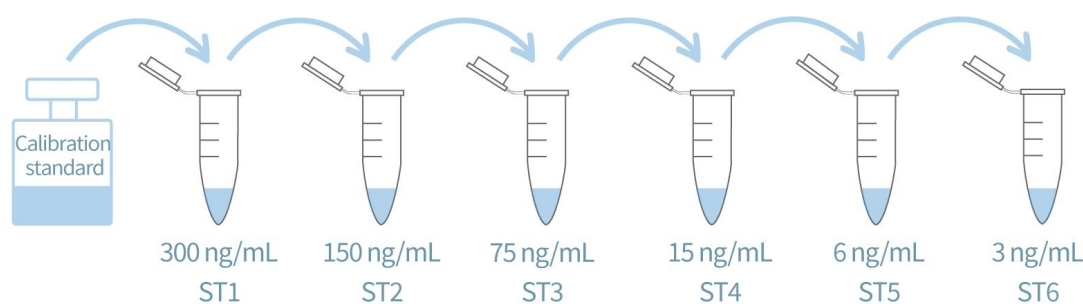

Figure 3. Graphic scheme of CHO-K1 HCP Calibration Standard Solutions
- Prepare CHO-K1 HCP Calibration Standard Solutions as shown in Fig 3 and Table 3.